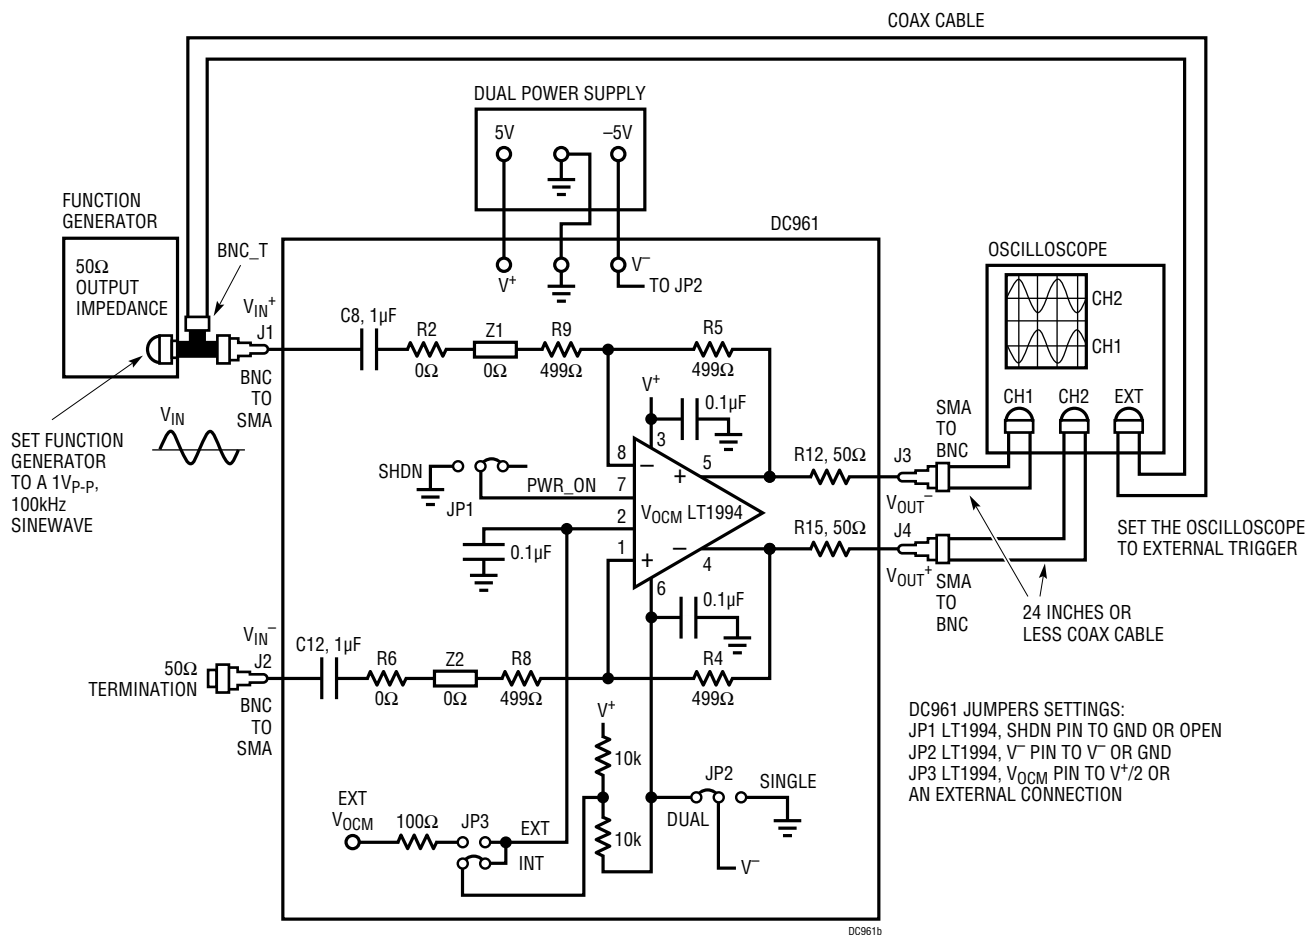

Figure 3. Single-Ended Input to Differential Output Quick Test Setup
1. Connect to a DC961 a dual power supply, a function generator and an oscilloscope as shown in Figure 3 (the 50Ω termination on J2 input is used to balance the 50Ω generator impedance on J1 input).